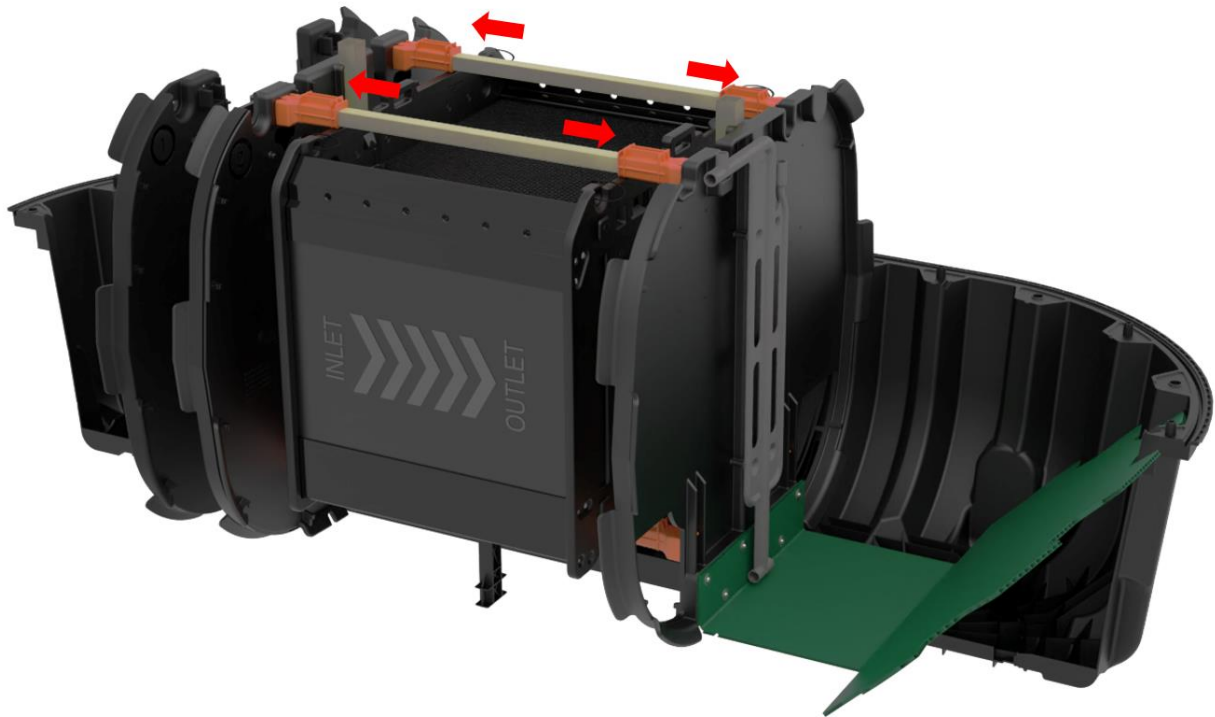

Figure 8: Top horizontal support crossbar
- **Install Horizontal Supports:** Insert the remaining two horizontal crossbar supports between the primary and clarifier baffles holes, resting in the mid-sockets at the top of the reactor box. Once in place, slide the locks against the baffles to secure them and keep the reactor box in place (Figure 8).